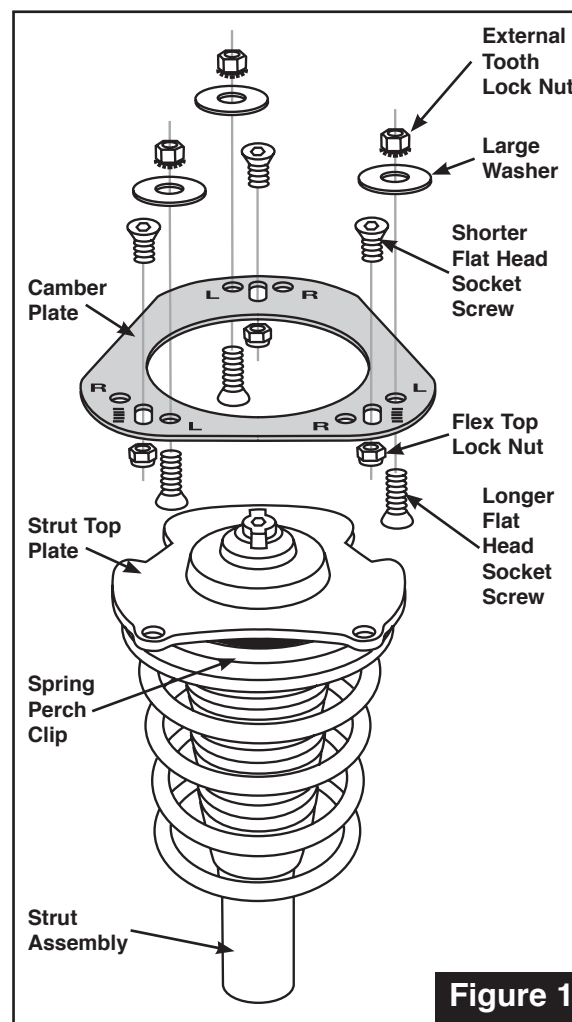

Figure 1
6. Install SPC camber plates onto strut assembly with lettered side facing up (**Figure 1**).